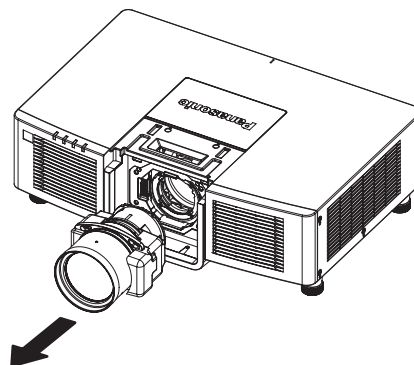

Fig. 4
- 4) **Align the mark on the projection lens (red) with the protruding mark of the projector, and insert the projection lens all the way in. (Fig. 4)**
- 4) **Remove the projection lens. (Fig. 4)**